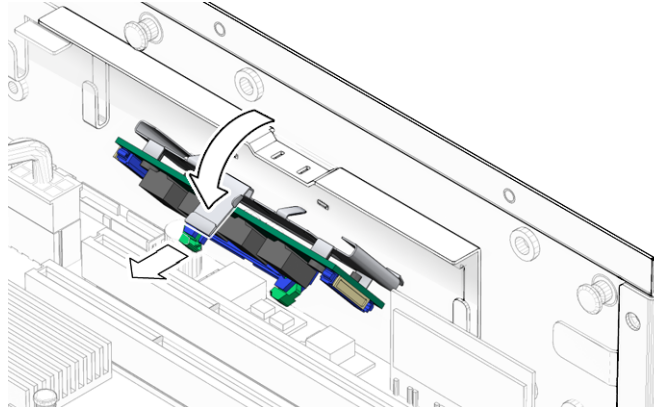

FIGURE 5-19 Lifting the Alarm Board Out of the Chassis
3. **Push down on the tab, pivot the alarm board inward, and lift the alarm board out of the chassis (FIGURE 5-19).**